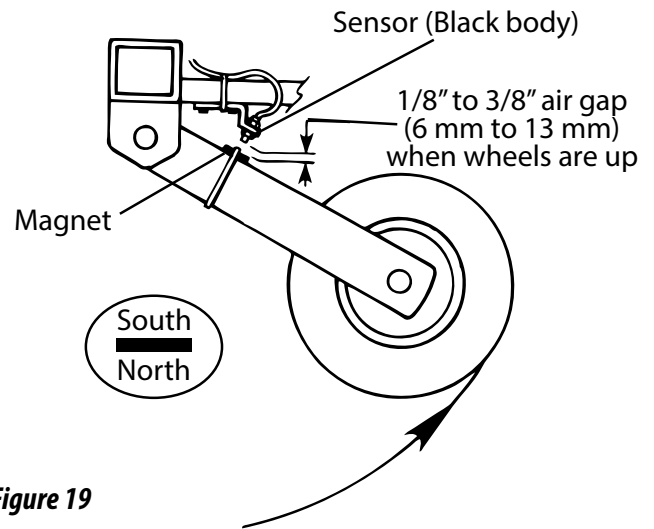

Figure 19
1. Choose magnet location on lever or some part of the equipment that moves when the implement is raised and lowered - be sure location will not interfere with any moving parts. See **figures 19 and 20** at right.